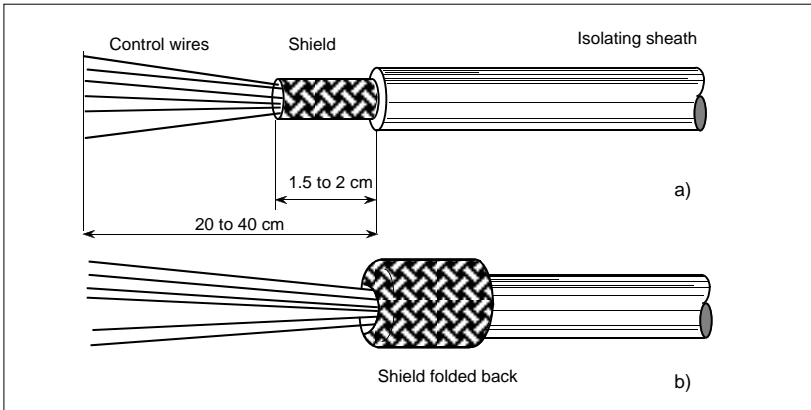

Figure 3-10 Control cable stripping
- **Strip** the shielded cable as shown in figure 3-10,a.
- **Fold back** the shield on the isolating sheath (figure 3-10,b)